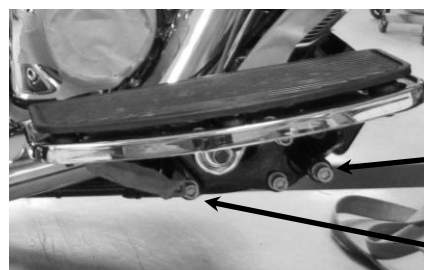

FIGURE 10
26. Insert the supplied floorboard spacer plate between the rear floorboard mount and the frame, then align the dowel pin and reinstall the allen bolt. Tighten to factory specifications. See **FIGURE 10**.
27. Remove the allen bolt from the right front floorboard mount. Place the supplied thick washer between the front floorboard mount and the frame. Reinstall and tighten the allen bolt to factory specifications. See **FIGURE 10**.